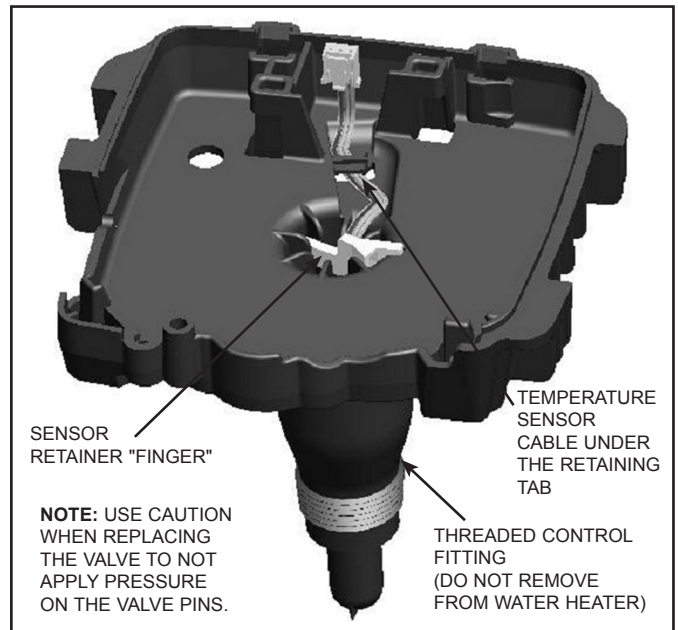

Figure 25. Temperature Sensor Retaining Finger
6. Use a screwdriver to pry under the sensor retainer finger to remove the temperature sensor and cable. See **Figure 25**.